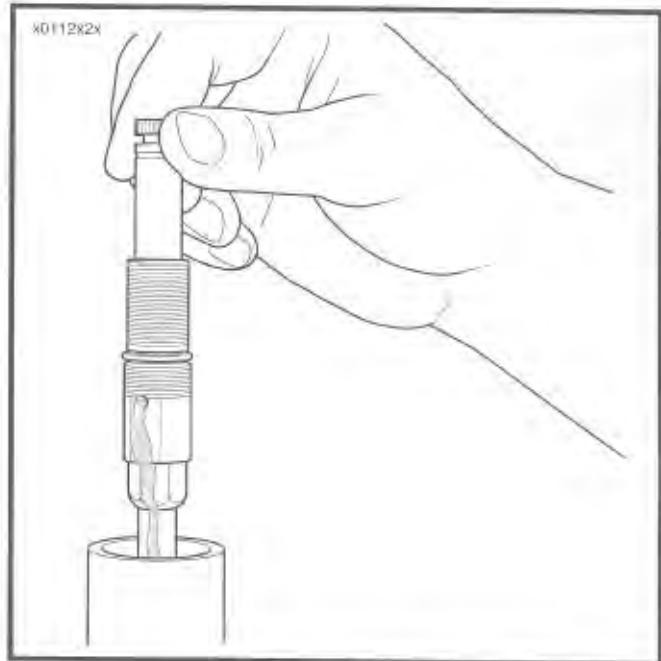

Figure 2-72.
12. See Figure 2-72. Slowly pump the damper rod 10 or more times.